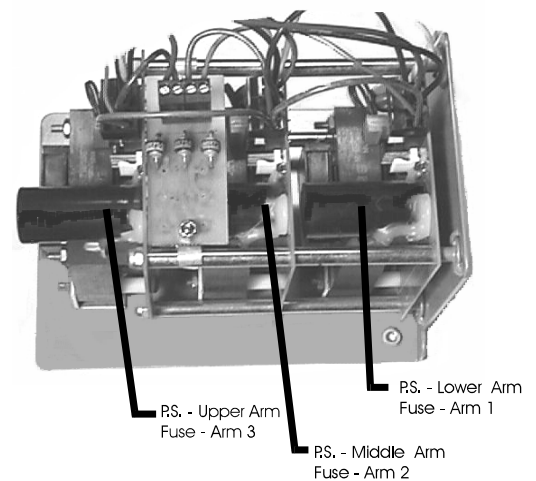

Figure 1
5. Install the 3 purple wires from the diode card terminal 2, 3, 4, into terminal 4 of the appropriate power supply connectors as shown in figure 1.
6. Install the 19" purple output wire and the small red output wire feeding the take-up card, into terminal 1 of the Diode Card as shown in figure 1.